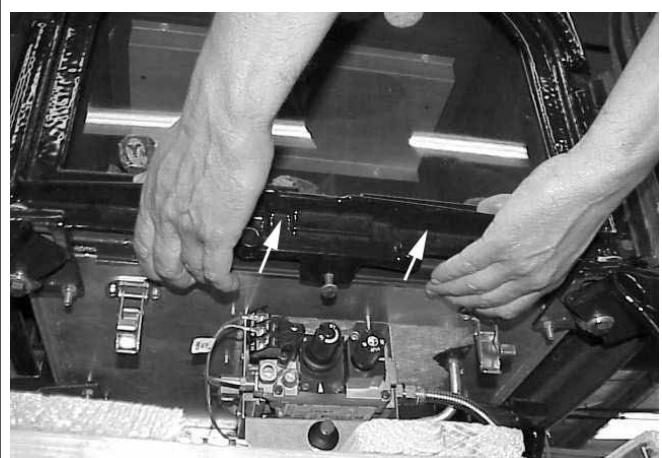

Figure 38
B. Reach under the bottom front of the front glass enclosure and pull it forward as shown in **Figure 38**.